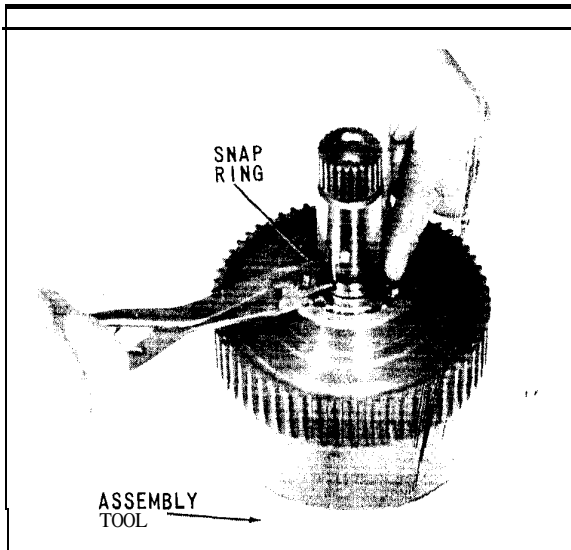

Fig. 50 Installing Snap Ring
40. Install external snap ring on drive gear, (Fig. 50).